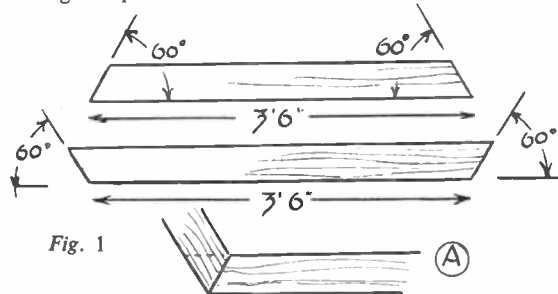

Fig. 1
parts of the frame shown in Fig. 1. Each frame is composed of three of each, nailed and glued together. The corner joints are made of the simple halved variety, and are easily cut by laying two together, as at (A) (a long piece over a short one) and pencilling the corner angles across, the overlapping portions being then sawn to half their thickness to make the joint. Employ good deal 1½ ins. by 4 ins. substance, and glue with casein glue, then securely nail through the joint. Leave the centre of the joint free of nails to facilitate subsequent fixing of the vertical posts.